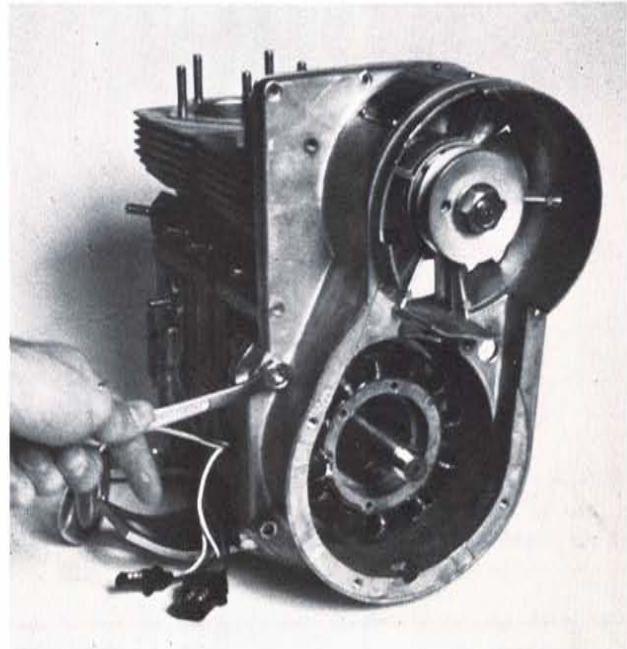

FIG. 33
12. Thread trigger and stator electrical leads through rubber grommet in crankcase, then install ventilator housing and secure with retaining nuts. Torque nuts to 150-160 in. lbs. (Fig. 33) Caution: Rubber grommet must protect wires completely to prevent engine from shorting out.